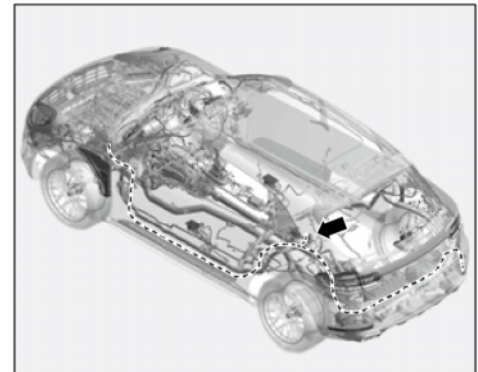

*Figure 40*
3.3 Guide connector (3-pin) through the bore to the underside of the vehicle and install sleeve into the bore (⇒ *Figure 40*).